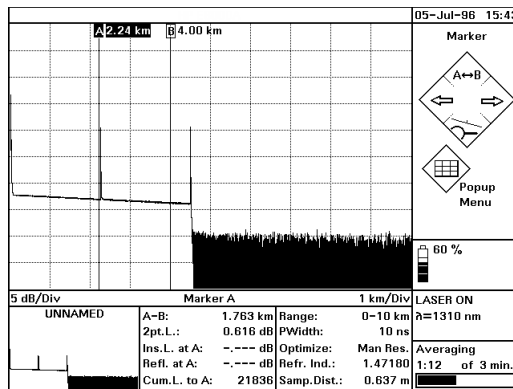

Figure 79 Event Deadzone Test: Position Marker A
- Position marker A** **10** Wait until the backscatter noise is reduced (about 10 s), then position marker A close to the beginning of the first reflection after the front reflection. See Figure 79. UP (A/B) until only A is highlighted. Use LEFT/RIGHT keys.